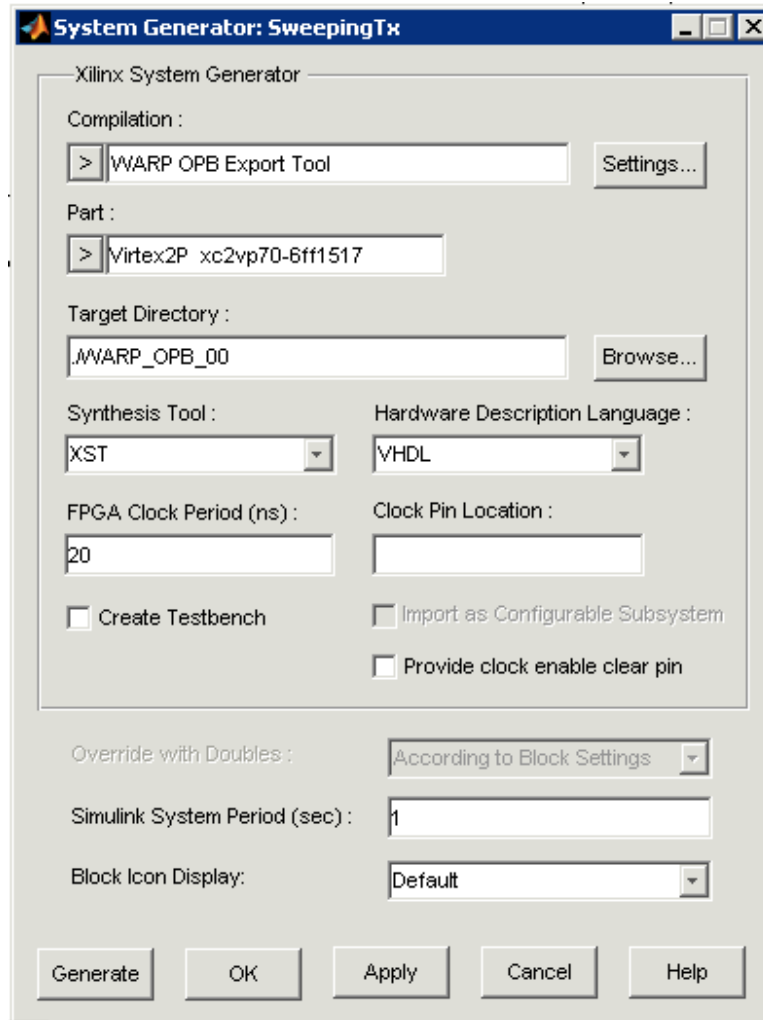

Figure 1: System Generator parameters for OPB core generation
3. Double-click the **System Generator** block. Make sure its parameters match those shown in Figure 1.